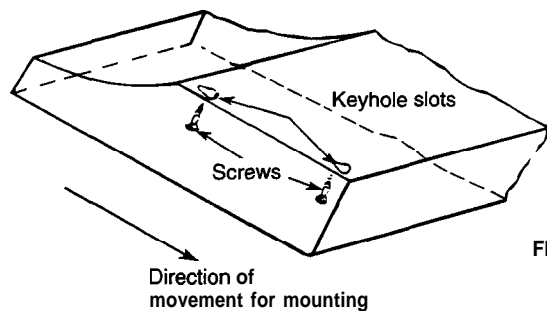

FIGURE 11
3. Partially drive the 4 mounting screws so that the heads of the screws extend 1/2" below the bottom of the cabinet. Raise the hood against the bottom of the cabinet, making sure that the heads of the mounting screws protrude through the hole section of the keyhole slots as shown in Fig. 11. Before tightening the mounting screws, attach the power supply cable to the hood. Then push the hood back against the wall and tighten the mounting screws.